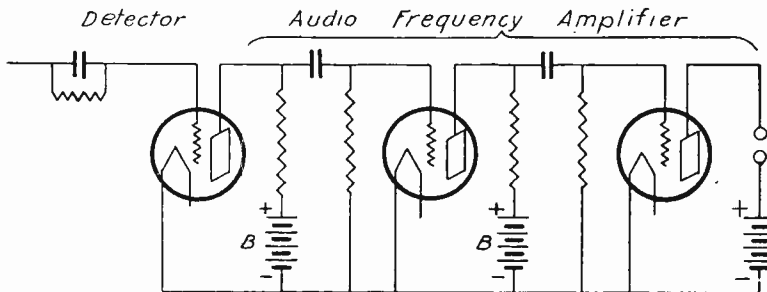
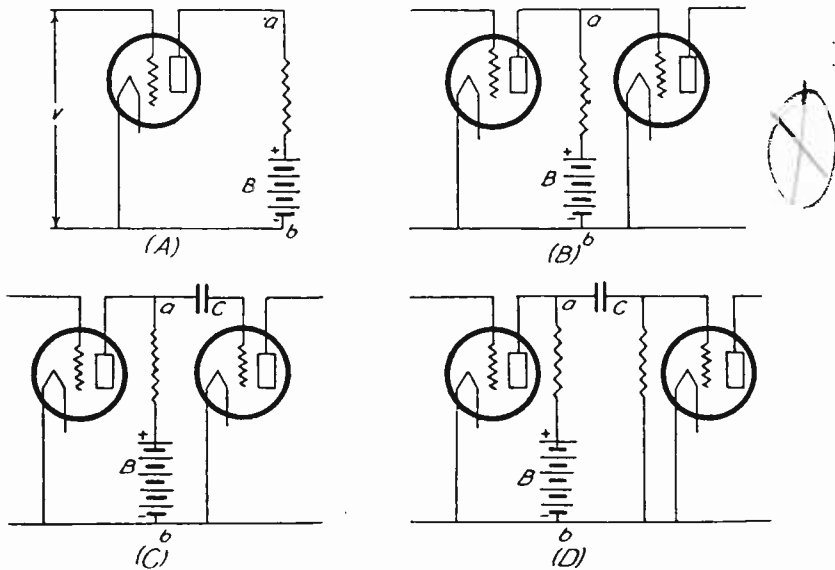
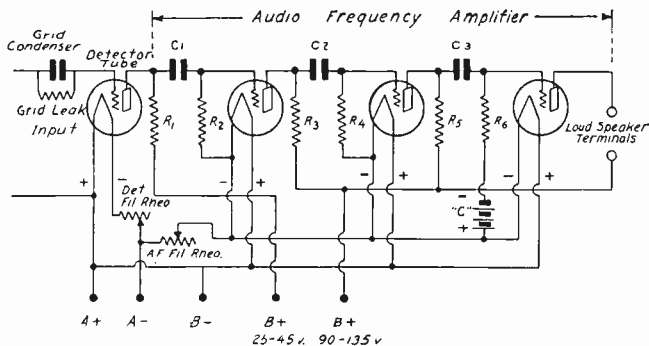

Fig. 1—Elementary Circuit Diagram of a Two Stage Resistance Coupled A. F. Amplifier.
Fig. 2
Fig. 3—Circuit Diagram of a Three Stage Resistance Coupled A. F. Amplifier.
A circuit diagram of this type of amplifier is shown in Fig. 1. For the sake of clearness we have omitted the "A" batteries, for these are always connected in the same way.
We have shown the amplifier connected to the output of a detector tube. Now let us see how this amplifier works. In order to do this, we will have to start with an electron tube, and build up the complete amplifier. Then we will know the reasons for the different things in the circuits. Suppose we start with an electron tube, having its filament lighted by an "A" battery, so that it emits electrons, and we place in the plate circuit a resistance of about 100,000 ohms and a "B" battery. We have shown this part of the circuit in Fig. 2-(A). Now suppose we have a signal voltage (that is, an alternating or oscillating voltage) impressed on the input of the tube. This is indicated by the letter "v."
there will be a similar current in the plate circuit of the tube, but of course made stronger or amplified by the tube. In other words, there will be a rising and falling voltage established between the points "a" and "b" of Fig. 2-(A), which we want to make work for us. The idea is now to take this voltage between "a" and "b," and impress it on the input of another electron tube so as to amplify it still further. Suppose we were to connect the points "a" and "b" directly to the input (this is, the grid and filament) of another electron tube. We have shown this in Fig. 2-(B). What will happen? The answer is that the second tube will not work at all. The reason for this is clear, for we are using a voltage of 90 volts, or perhaps 135 volts in the "B" battery, and this is connected in Fig. 2-(B) just like a "C" battery, that is, in the grid-return of the second tube. Having such a high positive grid voltage, the plate current in the second tube will be so greatly increased that the tube will not work. Under such conditions the tube will be *saturated*, by which we mean that when the grid or "C" voltage is so *positive*, a weak signal voltage on the grid will produce no corresponding voltage change in the plate or output circuit.
What we must do is to get rid of this high voltage on the grid of the second tube. This is easily done by placing a fixed condenser in the grid circuit of this tube, as shown at Fig. 2-(C). This condenser is marked "C." A constant voltage, such as furnished by the "B" battery will not pass through the condenser, but a varying voltage, furnished by the radio signals, will pass through easily. Therefore the condenser C *blocks* the voltage of the "B" battery off the grid of the second tube. For this reason, the condenser, when used in this way is called a *blocking condenser*. But remember that it allows the signal voltage to pass through onto the grid of the second tube, where we want it to go.
But when we place the blocking condenser in series with the grid of the second tube in Fig. 2-(C), we are preventing these electrons, and the negative charge which they cause on the grid, from flowing off the grid. As a result the grid becomes highly charged negatively. Now you remember what happened a few moments ago before we placed the blocking condenser in the circuit. The "B" battery placed such a large
We can now see the complete circuit, as shown in Fig. 1, more clearly. This is a combination of several stages of the circuit explained in Fig. 2. Going a little farther, we have in Fig. 3, the complete circuit, where only one set of "B" batteries is used. This circuit can be used to replace any other kind of audio-frequency amplifier that may be used in the receiver. But you must also know that whereas two stages
are all that are required in an amplifier which uses transformers, there are generally three stages required in a resistance coupled amplifier. For this reason three stages are shown in Fig. 3. Even when three stages are used, the amplification in a resistance coupled amplifier is generally less than that obtained in a transformer coupled amplifier, but it is often claimed that better quality of reproduction can be obtained by using a resistance coupled amplifier. This may be true when the amplifier is properly designed, but when not properly designed, the resistance coupled amplifier may give as poor quality of reproduction as the poorest transformer coupled amplifier.